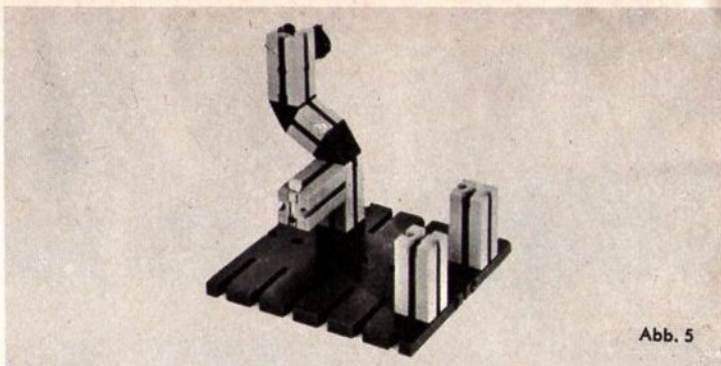

Abb. 5
4. Construction of the coin-insertion mechanism as per Figs. 5 and 6.